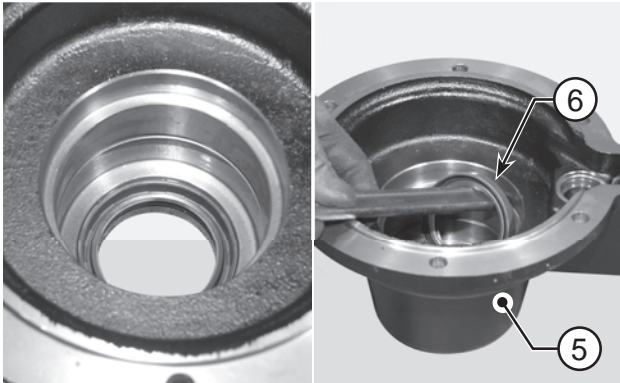

FIGURE 25: Using two levers, remove the seal ring (6).
FIGURE 25: Fasten piston (13) and fork (10) with spring pin (9). Apply Loctite 510 to the surface of the cylinder. Fit the cover (12) and secure with screws (11) tightening to a 25 - 26 N·m.